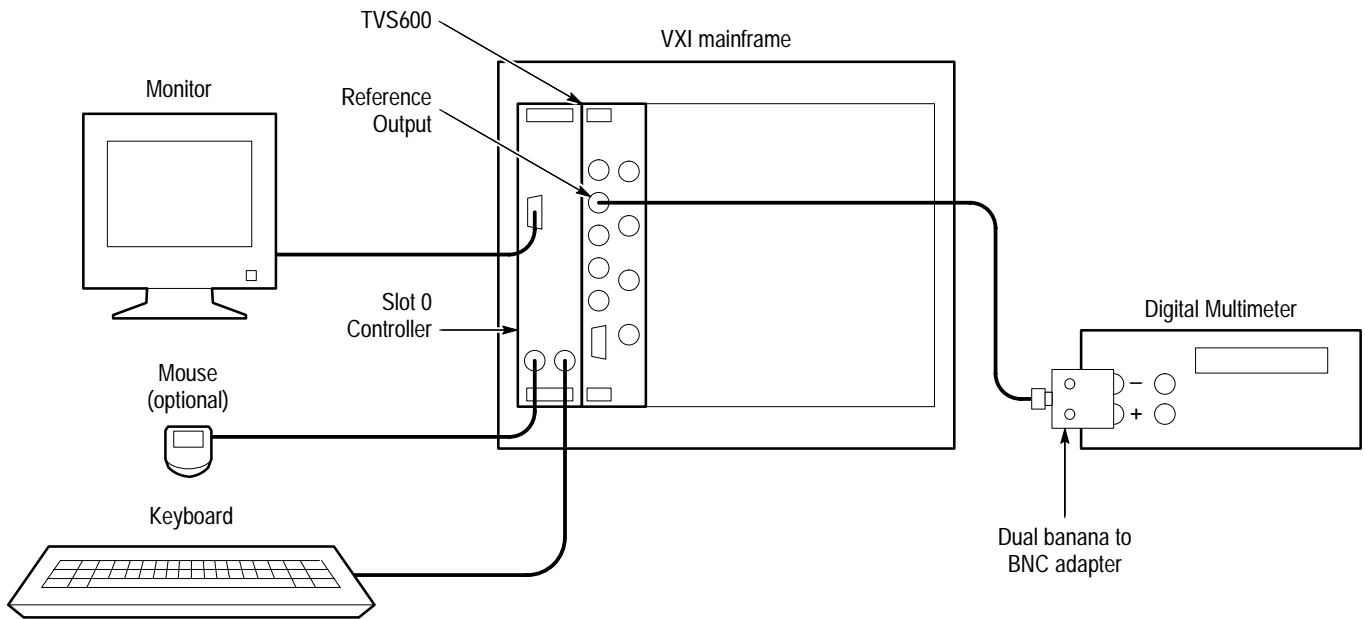

Figure 1–5: Voltage Reference Test Setup for Functional Tests
1. Use a coaxial cable and dual-banana to BNC adapter to connect the digital multimeter input to the REFERENCE OUTPUT connector (see Figure 1–5).